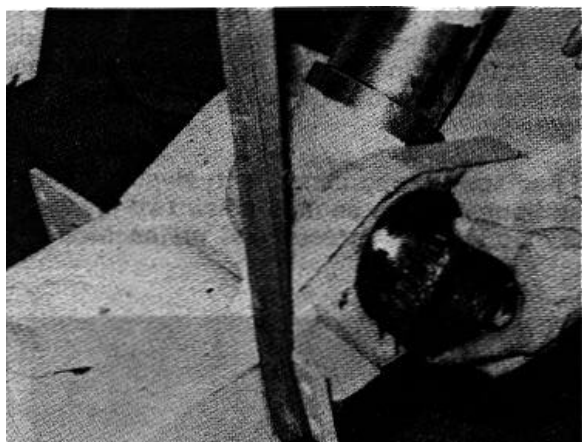

FIGURE 9-125.
g. Insert oscillation pin into yoke and king pin. Install two locking bolts into oscillation pin and torque to 200 ft.-lbs. (27.7 kg-m). See figure 9-125.
h. Pack bearing cones with Hyster approved multipurpose grease and install two (2) washer and slotted nut on each end of the oscillation